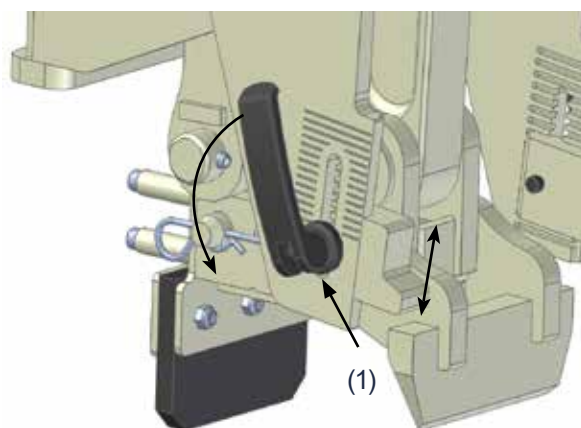

Fig 85.
2. Adjust the four reference plates by opening the excentric lock handle. (1), Fig 85.